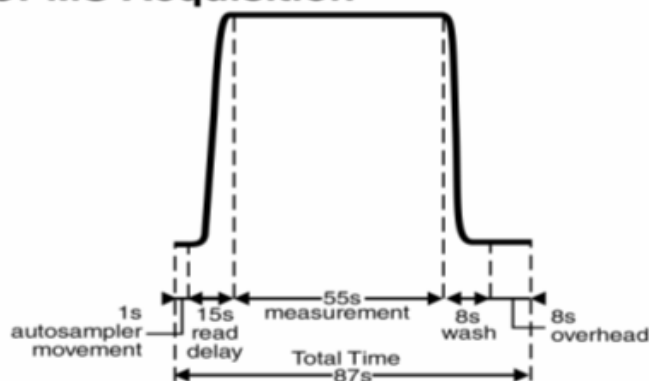

Figure 21: Example of reduced analysis time.
- 1) Reduced sample analysis time. Refer to Figure 21. Shown is an example of how the analysis time is reduced.